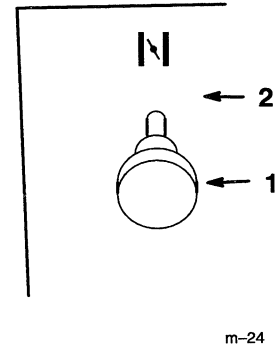

Figure 4
6. Move throttle lever to “FAST” (Fig. 4).
8. After the engine starts, move the choke lever to “OFF” (Fig. 4). If the engine stalls or hesitates, move the choke lever back to “ON” for a few seconds. Then move the throttle lever to desired setting. Repeat this as required.